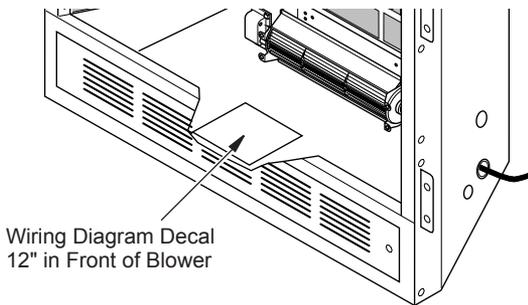

Figure 10 - Location of Wiring Diagram Decal (Model May Vary From Illustration)
5. Peel off the backing paper and stick the supplied wiring diagram decal on the firebox bottom approximately 12" in front of the blower (see Figure 10).